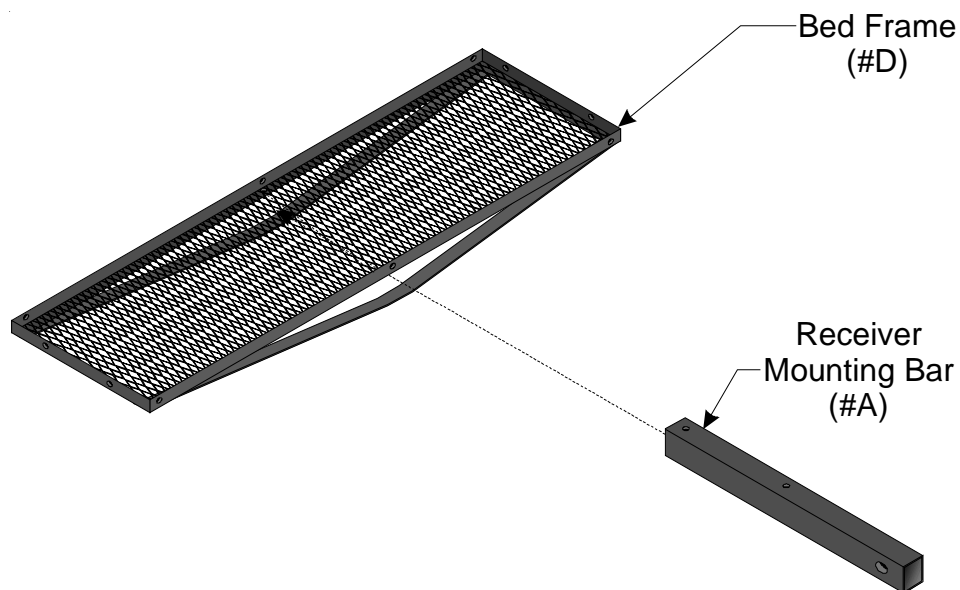

Figure 1 — Attaching the Mounting Receiver Bar
- Step 3: Insert the RECEIVER MOUNTING BAR (#A) under the mesh screen of the BED FRAME (#D) and between the arched Bed Frame Supports as shown in Figure 1.